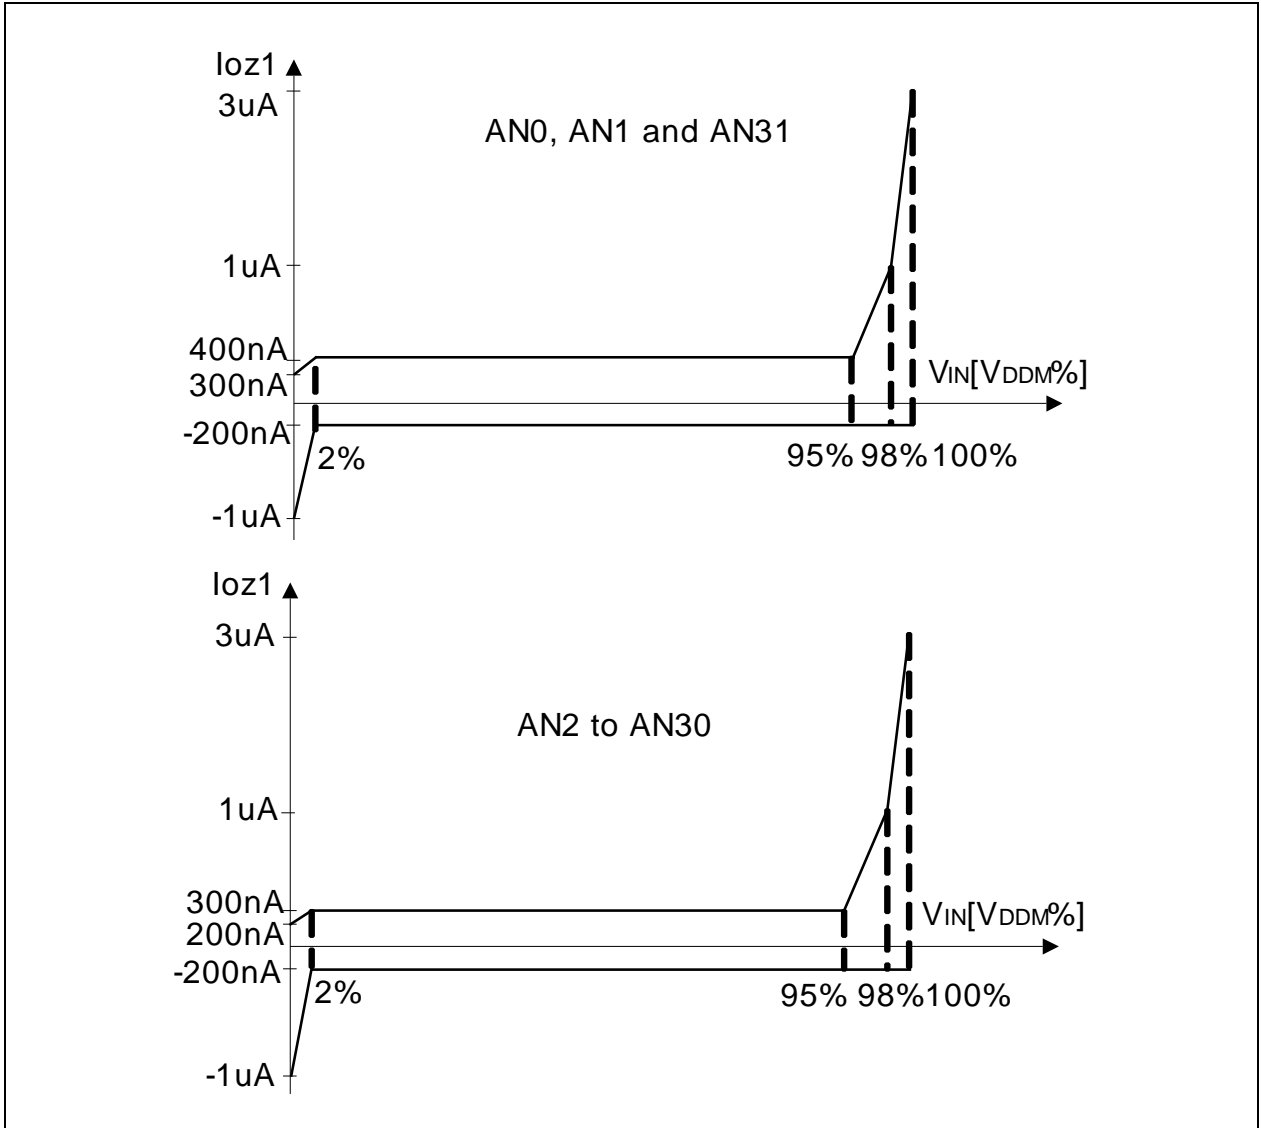

Figure 4-3 ADC0 Analog Inputs Leakage
| Input leakage current at analog inputs AN0, AN1 and AN31. see <a href="#">Figure 4-3</a> 13) | $I_{OZ1}$ 14) | CC | –1000                                       | –         | 300       | nA            | $(0\% V_{DDM}) < V_{IN} < (2\% V_{DDM})$    |
| Input leakage current at analog inputs AN2 to AN30, see <a href="#">Figure 4-3</a> | $I_{OZ1}^{14)}$ | CC | -1000        | -    | 200     | nA             | $(0\% V_{DDM}) < V_{IN} < (2\% V_{DDM})$                            |
- 13) The leakage current definition is a continuous function, as shown in Figure 4-3. The numerical values defined determine the characteristic points of the given continuous linear approximation - they do not define step function.